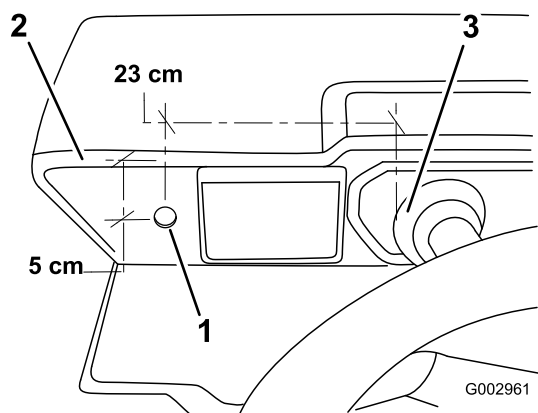

Figure 29
3. Drill a hole, 16 mm (5/8 inch) in diameter, in the dash panel. The hole should be 23 cm (9 inches) to the left of the steering column base and 5 cm (2 inches) from the top of the dash (Figure 29).